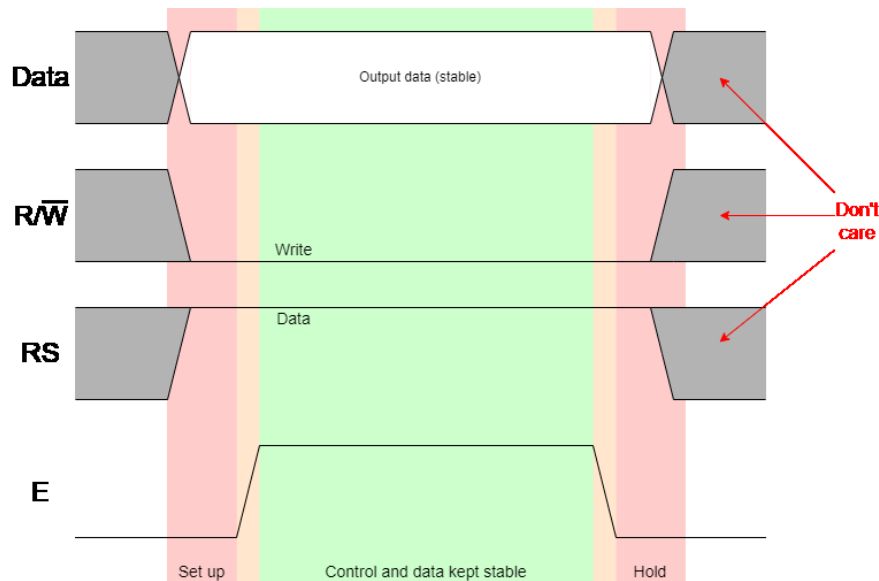

Figure 7.1: LCD data write cycle
To communicate with the display the control lines must be set to the appropriate values and then **strobed** using the enable line (fig. 7.1). If the enable signal is inactive the other signal states do not matter. During a transfer the signals should be stable, the usual constraints of set-up and hold times must be met, and the enable pulse has a minimum width.
- There are minimum times between changes in the interface signals (fig. 7.1).